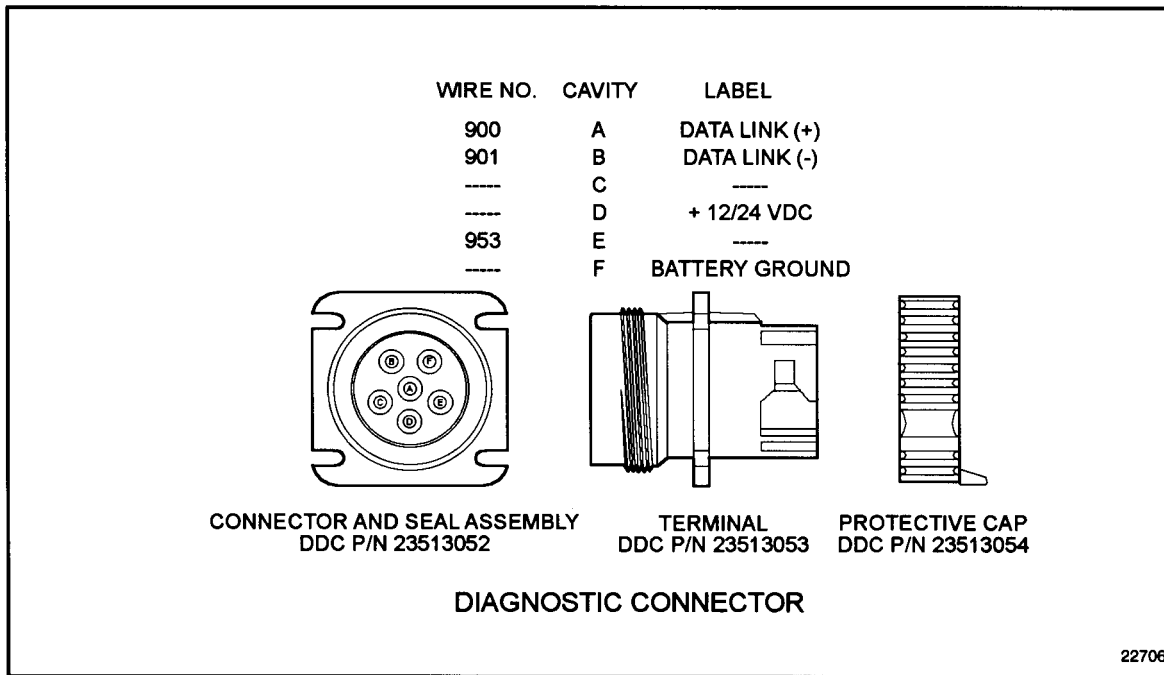

Figure 10-8 Diagnostic Connector
3. Turn ignition ON, and again measure resistance between sockets C1 and C2. See Figure 10-8.